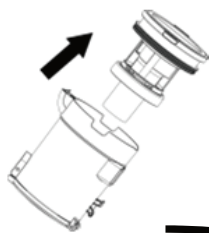
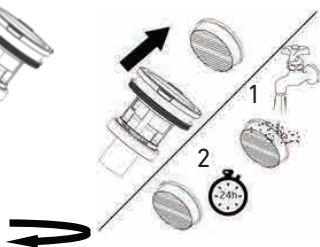
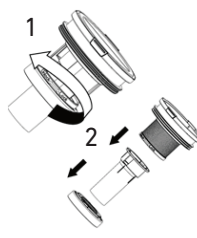
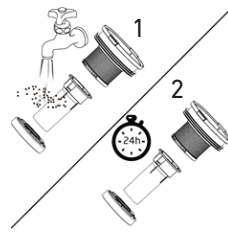

Fig. 9
Fig. 10
Fig. 11
Fig. 12
2. Lift out the cyclone from the dust container (Fig. 9), lift out the pre-motor filter and shake off dust frequently. Every three months rinse the filter and dry thoroughly. (Fig. 10) Turn the filter assembly head anti-clockwise to disassemble the inner filter (Fig. 11), wash with running water, and make sure that it is dry before next use. (Fig. 12)